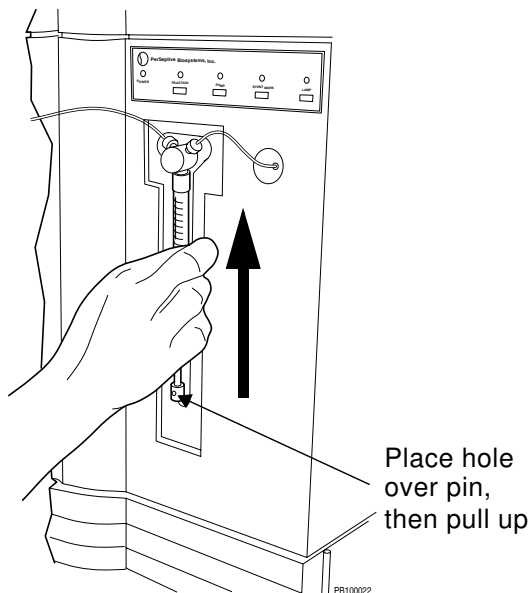

Figure 9-18 Replacing the Syringe
1. Place the hole in the base of the plunger over the pin on the syringe piston (Figure 9-18).